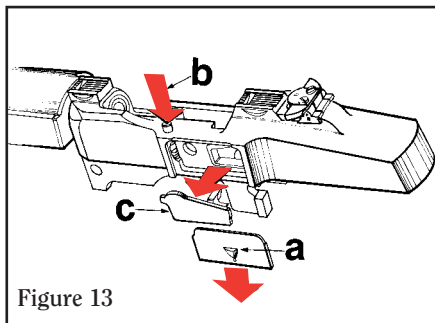

Figure 13
9. Remove bolt lock cover plate by carefully tapping downward (with a soft-metal punch) at point “a”. (See Fig. 13). With cover plate removed, depress bolt lock plunger, “b”, which will allow ejector/bolt stop, “c”, to be lifted out. (See “Caution” in step 6, p. 24.)